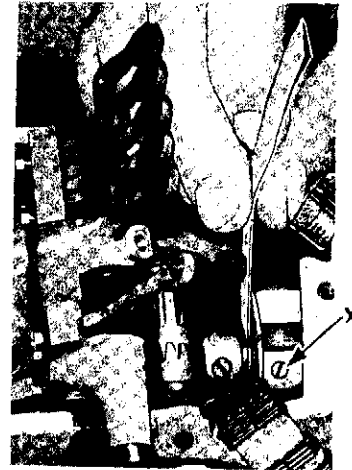

Fig. 236. Locating Sprocket
Slide sprocket on to arm shaft with **timing notch**, atop flange edge, facing take-up lever end of machine. Locate set screw nearest notch on flat of arm shaft and fasten screw **X**, Fig. 236 lightly.
To insure sufficient clearance for heat expansion between sprocket and rear arm shaft bushing, sprocket must be located as close to the bank of cams as is possible without high points of cams striking or rubbing against flange of sprocket. For maximum clearance use two strips of letter paper, as illustrated in Fig. 236, to make sure that high points of cams do not interfere. This clearance should be checked for at least ten (10) complete turns of the hand wheel.